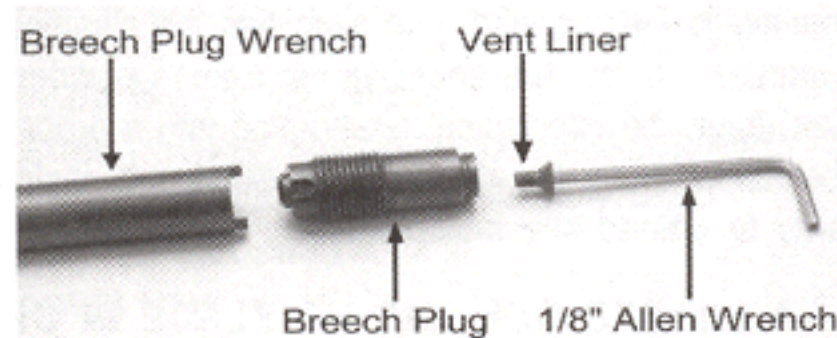

FIGURE 6
5. REMOVE THE BREECH PLUG VENT LINER. Use a 1/8" Allen wrench to remove the vent liner at the face of the breech plug (See FIGURE 6). Depending upon the powder being shot, the vent liner should be replaced after approximately 200 shots to maintain optimum performance.
6. Using a 1/8" Allen wrench, remove the vent liner from the breech plug (see Figure 6). Look through the breech plug to assure that the flash hole